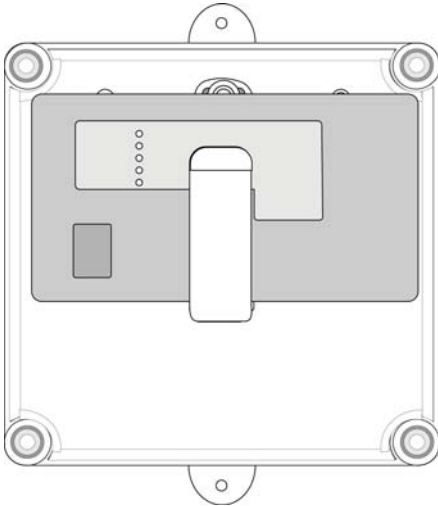

Figure 4 ACC650 enclosure with repeater installed.
10. Insert the repeater in the repeater clip, as shown in Figure 4.